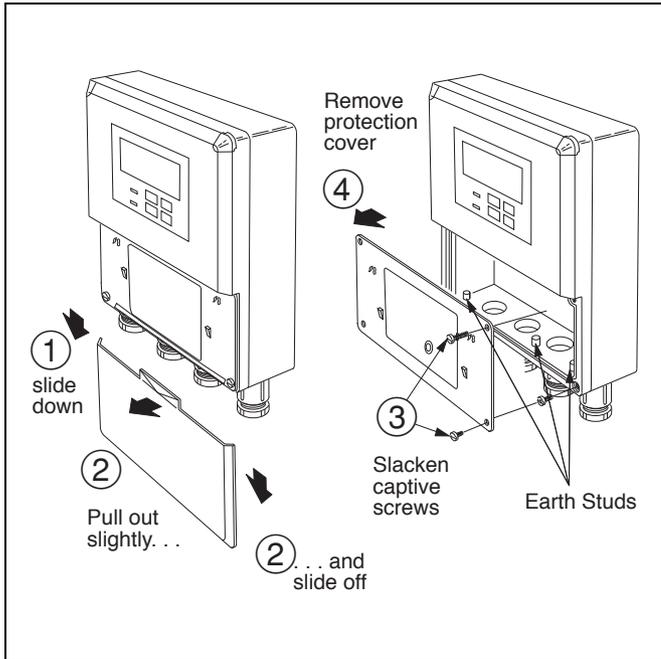
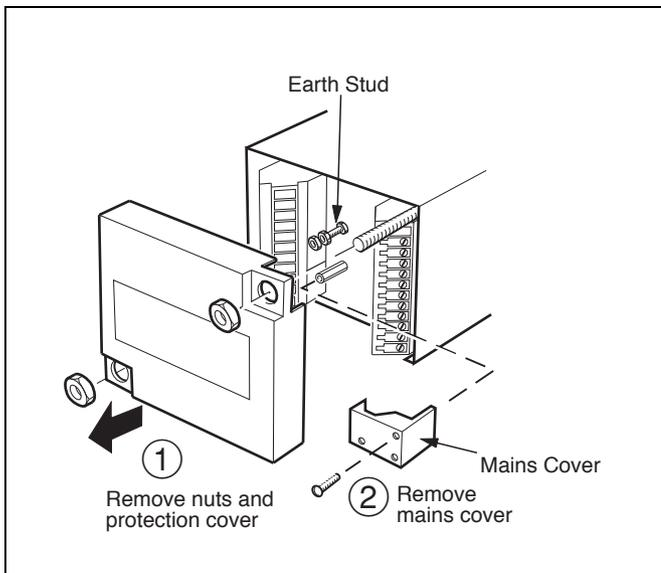

Fig. 3.3 Access to Terminals - Wall Mounted Instrument
Fig. 3.4 Access to Terminals - Panel Mounted Instrument (Rear View)
- ⊕ Earthing (grounding) - stud terminals are fitted to the transmitter case for bus-bar earth (ground) connection - see Fig. 3.3 or Fig. 3.4. It is also recommended that the inlet tubing be earth (ground) bonded.
**Note.** Refer to Fig. 3.3 for Access to Terminals.
**Note.** Refer to Fig. 3.4 for Access to Terminals.